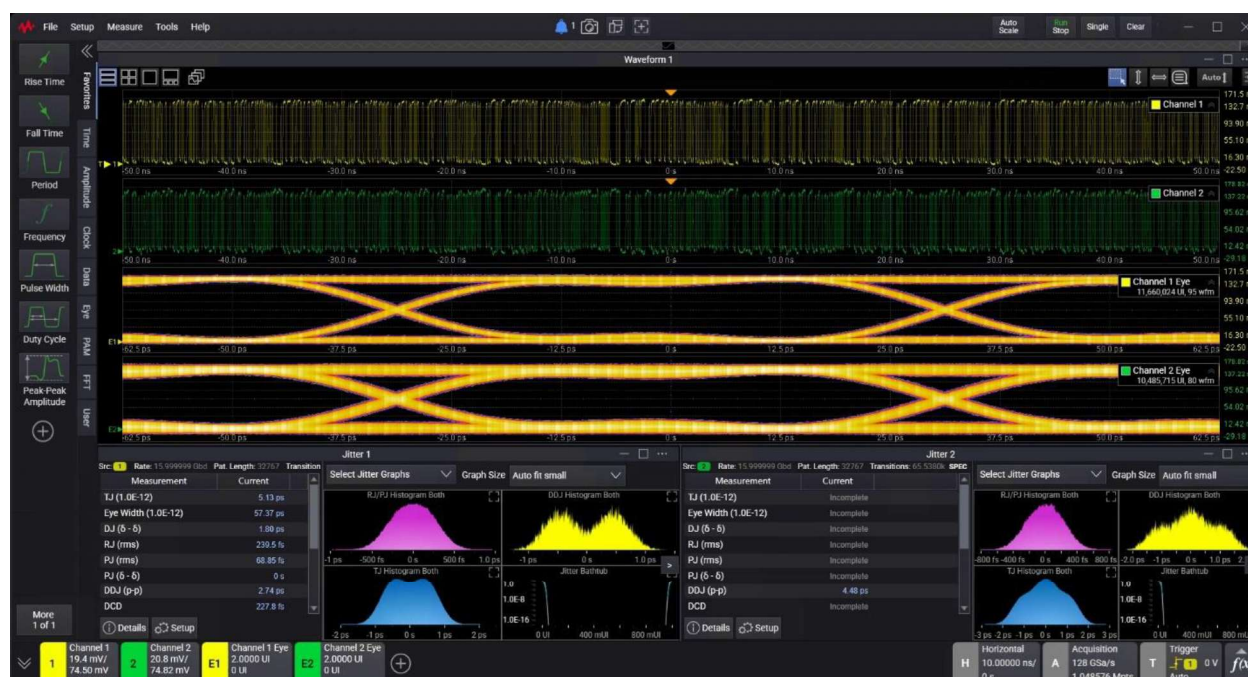

Figure 4. Raw waveform, eye diagrams, and jitter decomposition measurements of two digital channels
- **Jitter decomposition requirements:** Today's compliance tests require separating total jitter into deterministic, random, and sinusoidal components. Accurate decomposition requires high-fidelity waveform capture and precise timing measurements (Figure 4).